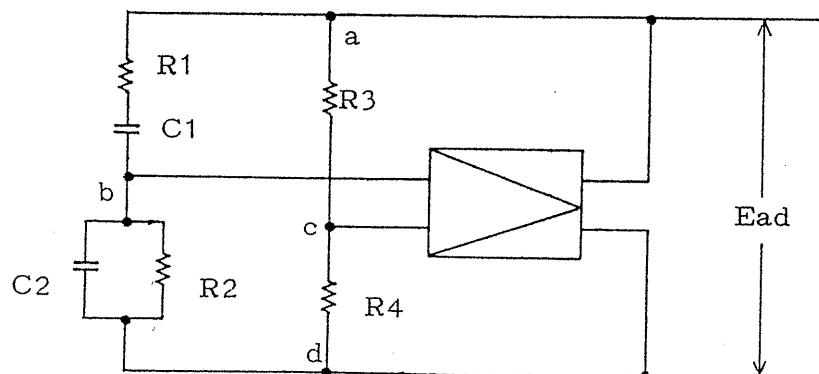

Fig. 2 Wien bridge oscillator circuit
Among low frequency oscillators, RC oscillators which employ R and C as frequency-determining elements are most common. Among RC oscillators, Wien bridge type is most popular. The Wien bridge has many advantages over other oscillation circuits. Its frequency is easily variable, and small distortion. The operating principle of the Wien bridge oscillator circuit is shown in Fig. 2.
Referring to Fig. 2, the phase of E_{bc} becomes the same with that of E_{ad} when the below condition is satisfied.
It is very difficult for the circuit of Fig. 2 to satisfy constantly the condition of equation (4). Oscillation will not start if the condition of equation (4) is satisfied from the beginning. The conditions of oscillation are determined by equations (1) and (3), and they are not related with the oscillation amplitude. Therefore, the condition of equation (3) must be maintained until the oscillation builds up to the required amplitude. Then the circuit must satisfy the condition of equation (4). To accomplish this requirement, the resistance of R_3 or R_4 must automatically vary in response to the oscillation amplifier. This is accomplished by using a thermistor as for R_3 .